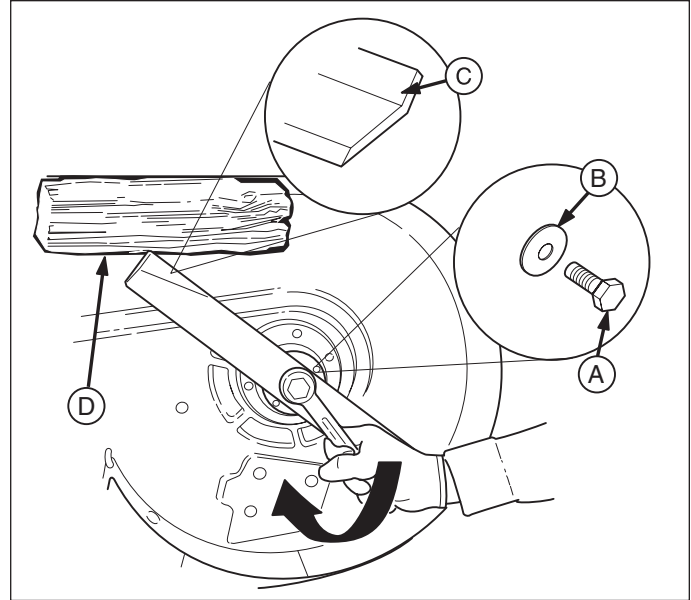

Figure 7. Tightening the Mower Blade for Installation
3. Check that blades are installed with the tabs pointing up toward the deck as shown in Figure 7. Torque the bolts to 70 ft.lbs. (94 N.m.).